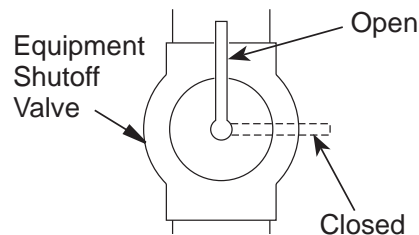

Figure 15 - Equipment Shutoff Valve
1. Close equipment shutoff valve (see **Figure 15**).
1. Open equipment shutoff valve (see **Figure 15, Page 15**).